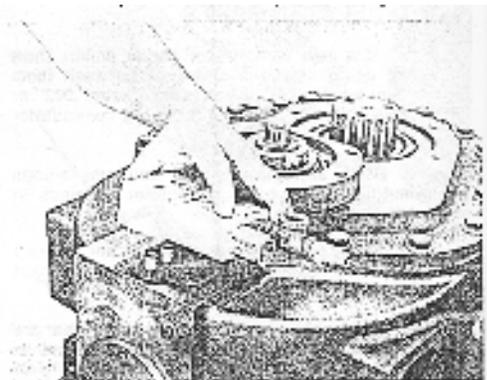

Figure 44. Localizing Baseplate Gasket and Baseplate.
6. Install new O-rings with grease in base plate. Mount base plate see fig 44.